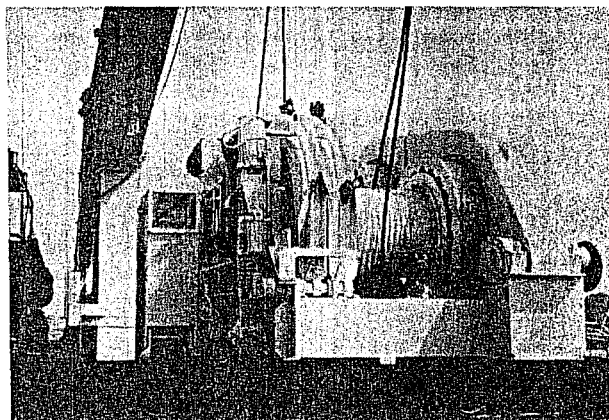

Figure 6.2-22
32. Attach the crane to the lugs on the main machinery module (Figure 6.2-22).